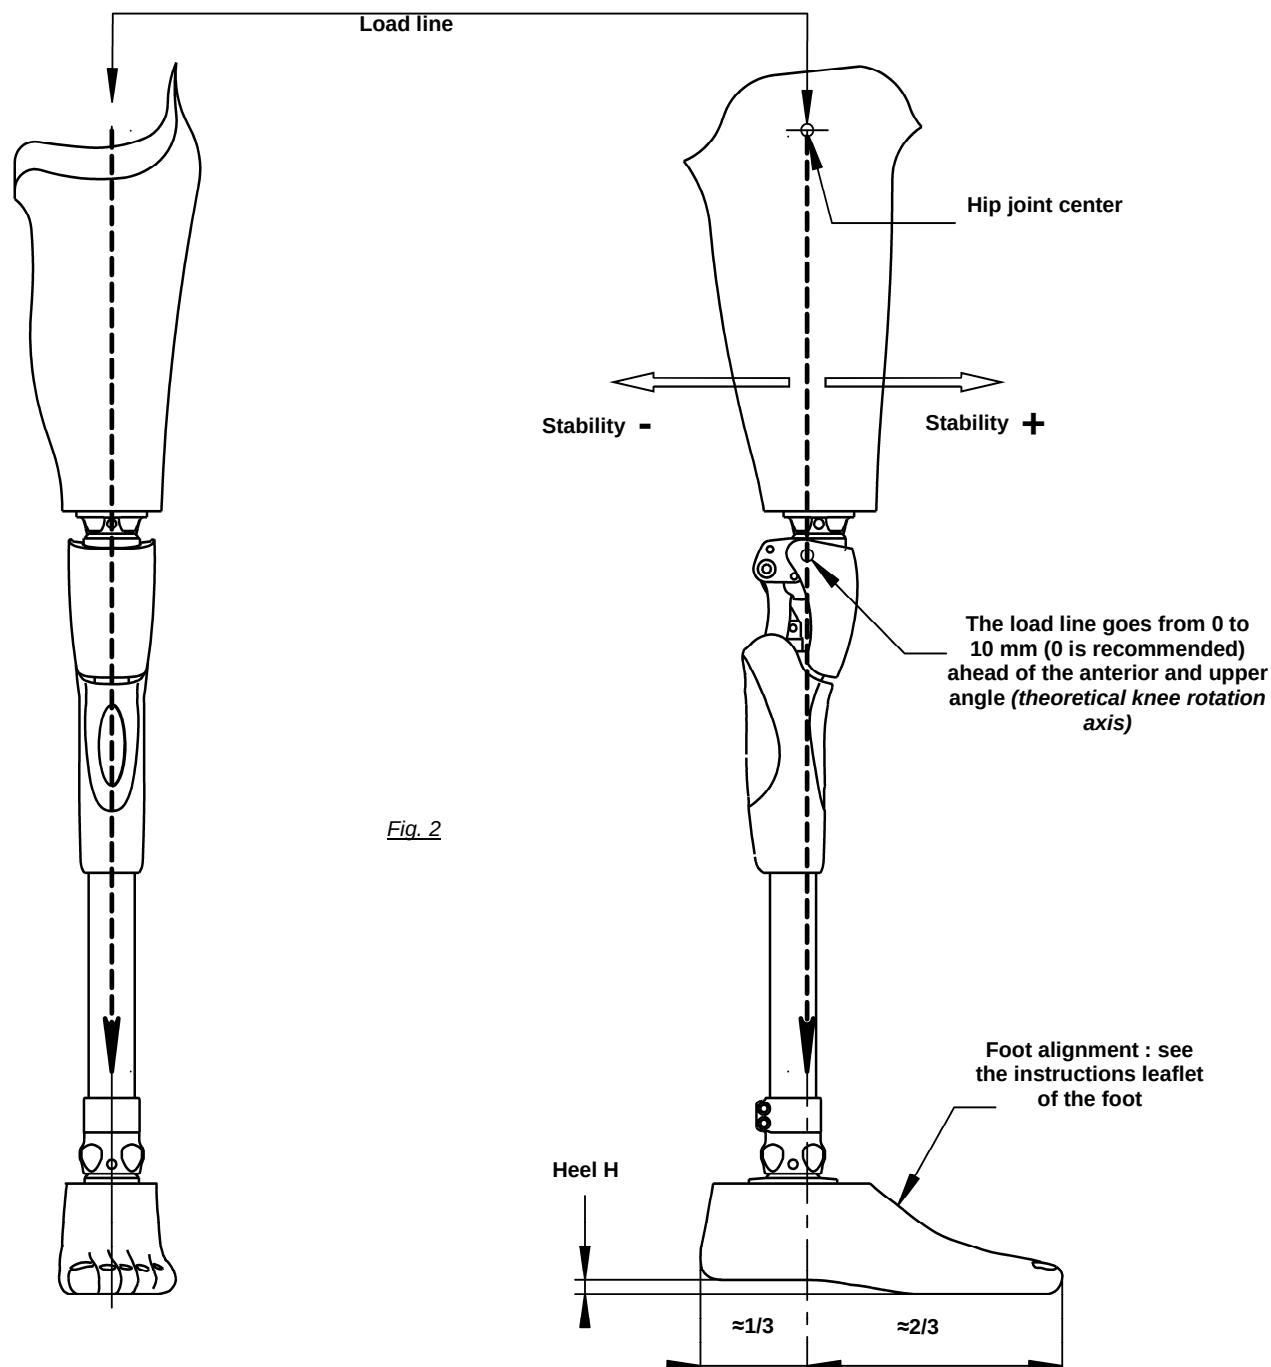

Fig. 2
**STABILITY ADJUSTMENT** (Fig 2)**To increase dynamism**